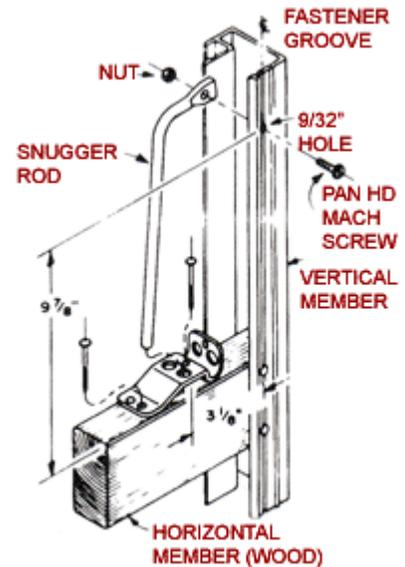

FIGURE 17
2.) Refer to **Fig. 17** for hole location.
6.) Secure the opposite end to vertical member using (1) 1/4" fastener and nut as shown **Fig. 17**.